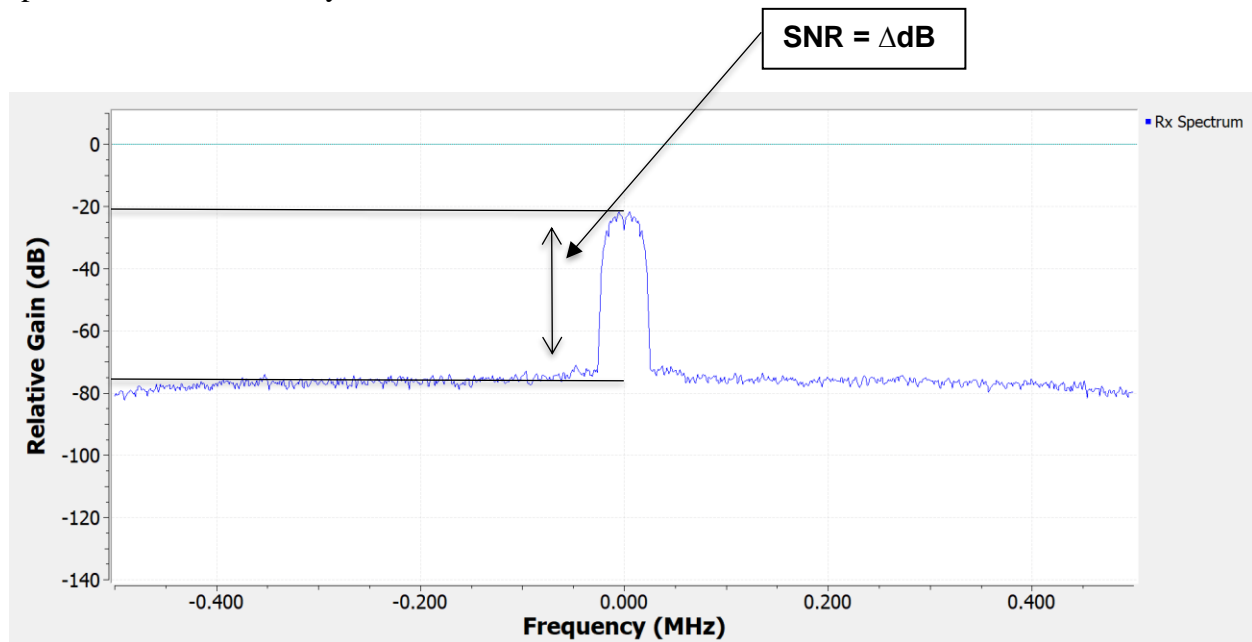

Figure 2: SNR Measurement
7. Once you have sufficient gain in your signal, measure the Signal to Noise ratio (SNR) by taking the difference in dB from the peak of your down converted received spectrum to the base of the noise floor and record its value, see figure 2. The signal to noise ratio is defined as the